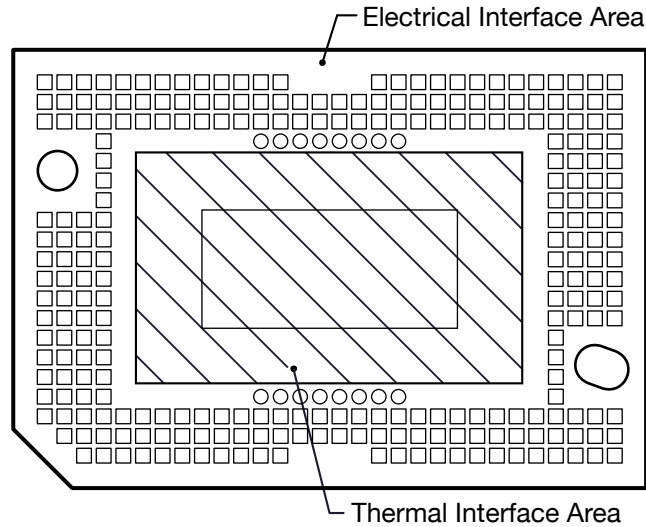

Figure 6-7. System Mounting Interface Loads
(1) Uniformly distributed within area shown in Figure 6-7.